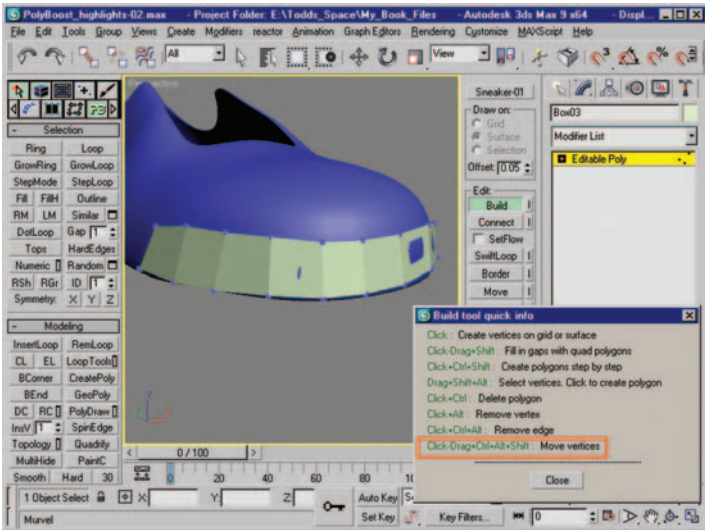

Figure 12.26 Vertices moved with alternate key combination and the Build tool.
30. To move vertices around with the Build tool still active, hold down the Ctrl+Shift+Alt keys. When you move over a vertex it will turn red. Simply left-clicking and moving the mouse will move it smoothly to whatever location you wish. This is a nice feature because it enables the user to continue on with the Build tool without needing to disable it, use another tool, and then go back through the process to restart building. Figure 12.26 shows vertices after being moved with the alternate key combination and the Build tool.
Notice in Figure 12.26 that in the modifier stack the words “Editable Poly” are highlighted in yellow. When you deactivate Build, the Editable Poly will remain highlighted. To complete the Build, click on the highlighted text to deactivate it.